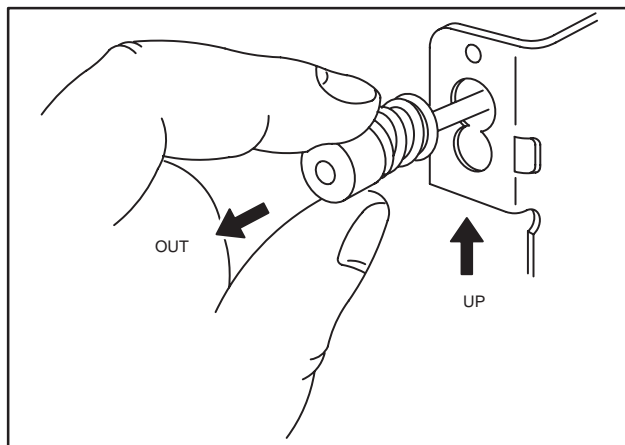

Fig. 351 – SPEED ADJUSTING NUT
2. Start engine and pull out on speed adjusting nut to maximum length of travel, Fig. 351.